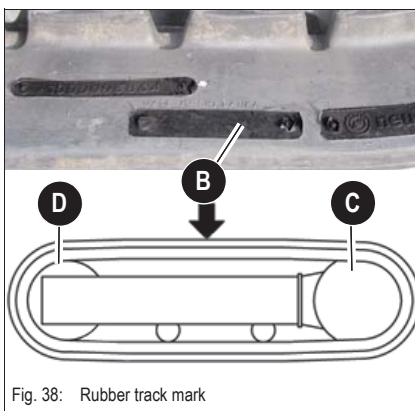

Fig. 38: Rubber track mark
- The rubber track has a mark **B** as shown in Fig. 38